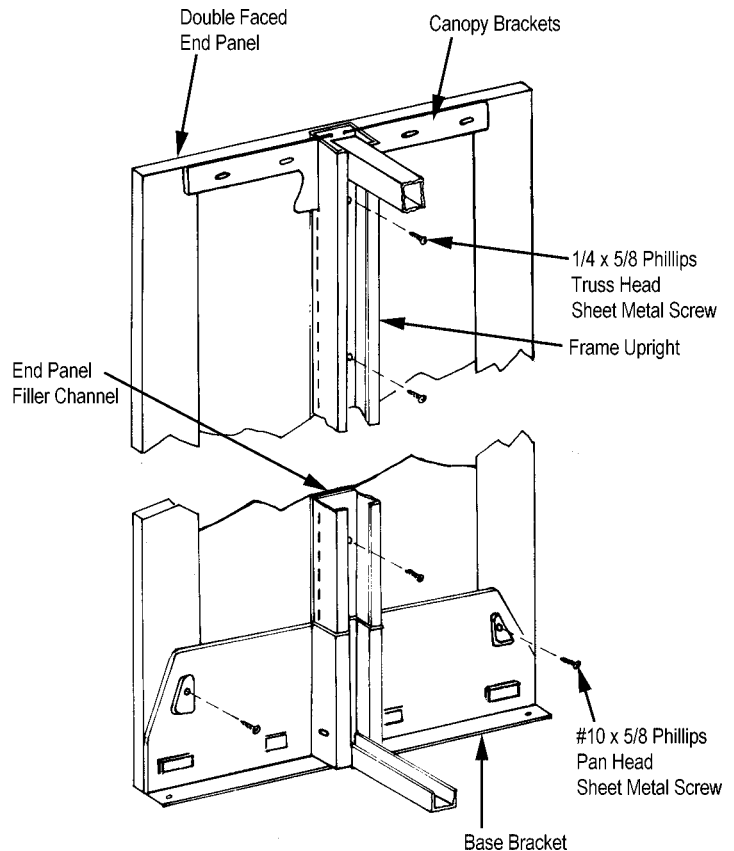

FIGURE 35
2. Secure end panel to base bracket with a #10 x 5/8 Phillips pan head sheet metal screw. (Reference Figure 35).
2. Secure end panel to base bracket with #10 x 5/8 Phillips pan head sheet metal screws. See Figure 35.
3. If canopy top and brackets are used, attach canopy top and brackets to end panel with 1/4-20 x 1 Phillips truss head machine screws and 1/4-20 hex nuts (hardware not shown in Figure 35).